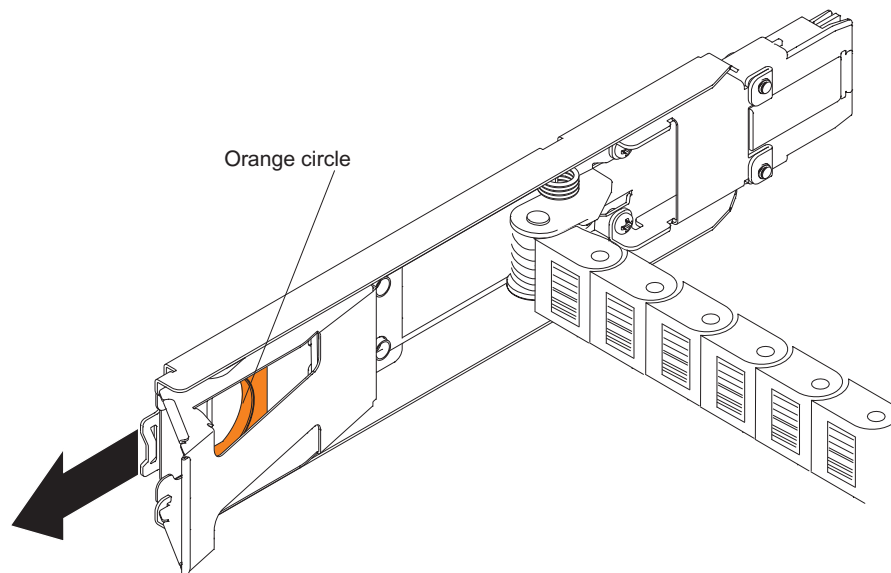

Figure 96. Vertical mounting bracket that connects to the midplane
- a. Disconnect the right cable chain mounting bracket from the midplane. Hold the orange handle (See Figure 96) and pull the mounting bracket out of the storage expansion enclosure. If necessary, use a flashlight to locate the orange circle.